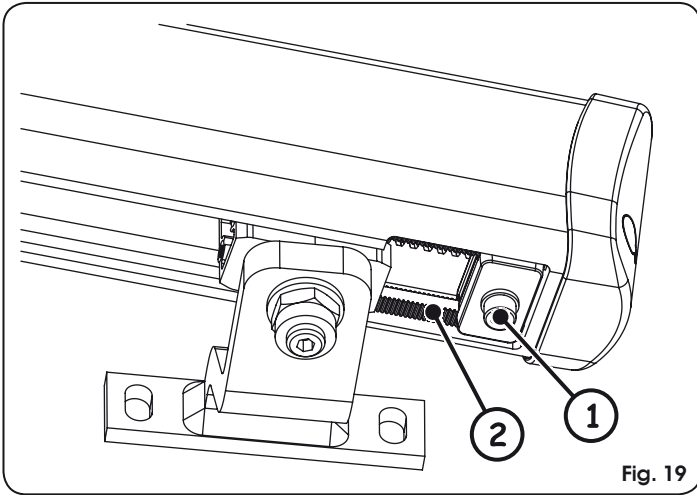

Fig. 19
⚠ The mechanical stop works coupled to a toothed sector, Fig. 19 ref. ②. If there are any troubles during the movement, make sure that the coupling is free. DO NOT FORCE.